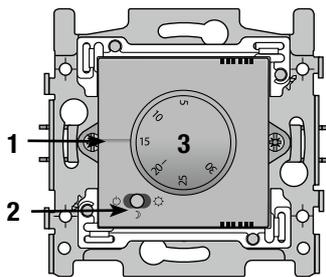

fig.3
**Parts (fig.3)**
1. Set value: the line indicates the desired temperature (e.g. in fig. 3, the thermostat is set to 15°C).